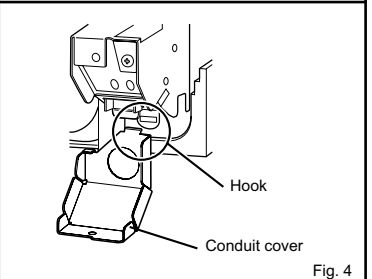
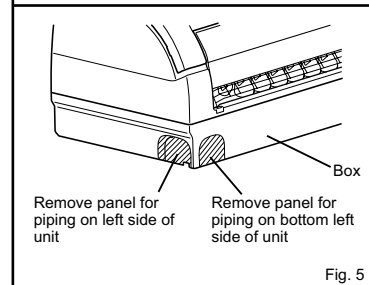

Fig. 4
Fig. 5
- 8) Secure indoor/outdoor unit connecting wire (A) and the ground wire with conduit cover. Never fail to hook the claw of the conduit cover to the electrical box. Attach the conduit cover securely. (Fig. 4)
- 9) According to the piping direction, remove the shaded part of the left side of box (Fig. 5) or corner box (Fig.6). Reinstall corner box and front panel.
- Insert the drain hose fully into the drain pan at the back right of the indoor unit. (Fig. 4)
- Insert the drain hose into wall hole sleeve (C), and attach the upper part of indoor unit onto the installation plate (1). Then, shift the indoor unit completely to the left to make placing the piping in the back of the unit easier.
- Cut out a piece of cardboard from the shipping box, roll it up, hook it onto the back rib, and use it as a spacer to lift the indoor unit. (Fig. 5)
- Connect the refrigerant piping with the extension pipe (B).
- Attach the lower part of the indoor unit into the installation plate (1).
- 4) Flaring work (Fig. 4, 5). Firmly hold copper pipe in the dimension shown in the table. Select A mm from the table according to the tool you use.